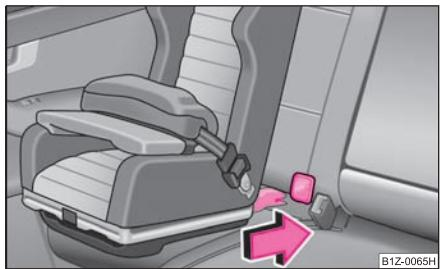

Fig. 133 The ISOFIX child seat is pushed into the mounting funnels
- Push the notched arms of the child seat into the locking eyes until they are heard to lock in place ⇒ fig. 133.